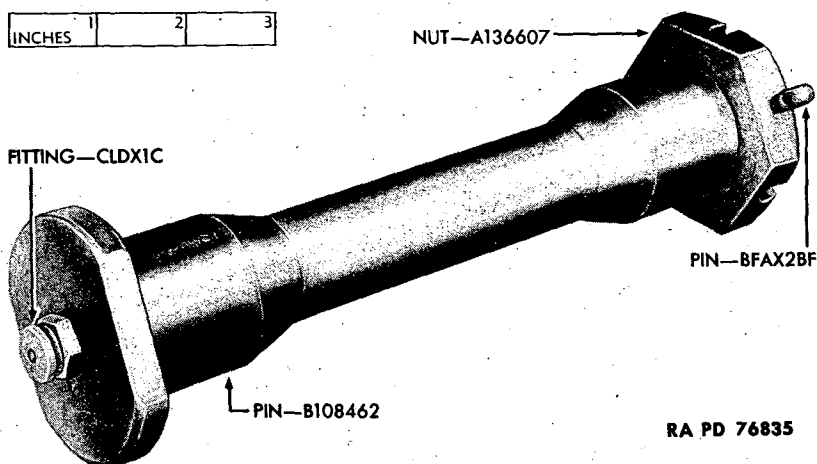

Figure 148—Trail Hinge Pin
(1) The right and left trails (fig. 146) are tapered, box construction welded steel members attached to the bottom carriage by means of trail hinge pins and nuts (fig. 148). The trail hinge pins permit the trails to be pivoted in order to place the trails in the firing or traveling position.